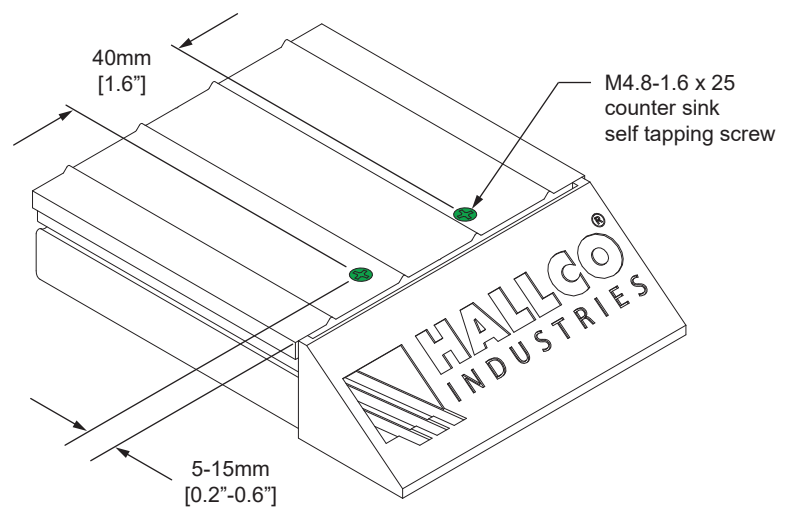

Figure 3
Alternatively, you can secure the end caps by using two (2) M4.8-1.6 x 25 self tapping counter sunk screws (fig. 3).